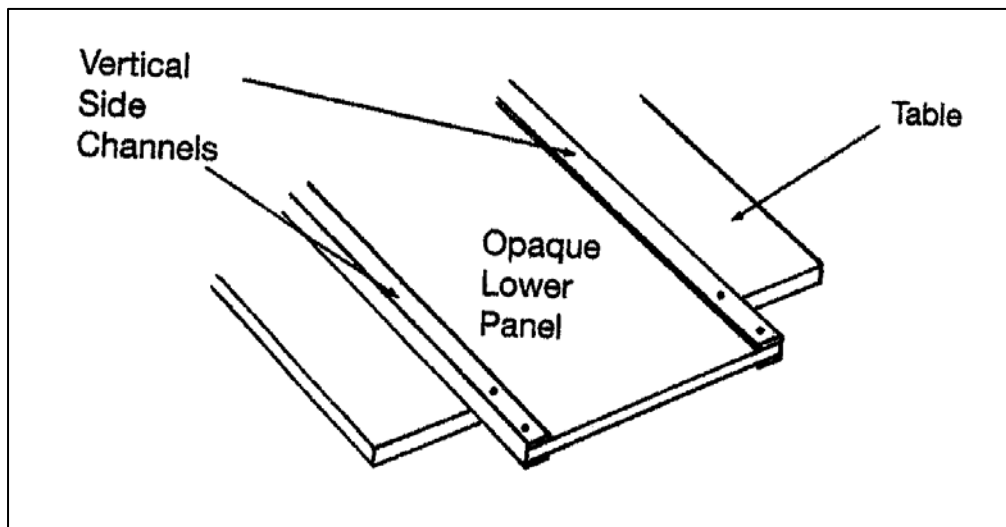

Figure 2-1. Caster Brackets Assembly
- a. To facilitate installing the caster brackets, lay the opaque lower panel flat on a table with the mounting holes extending over the table's edge (see Figure 2-1).